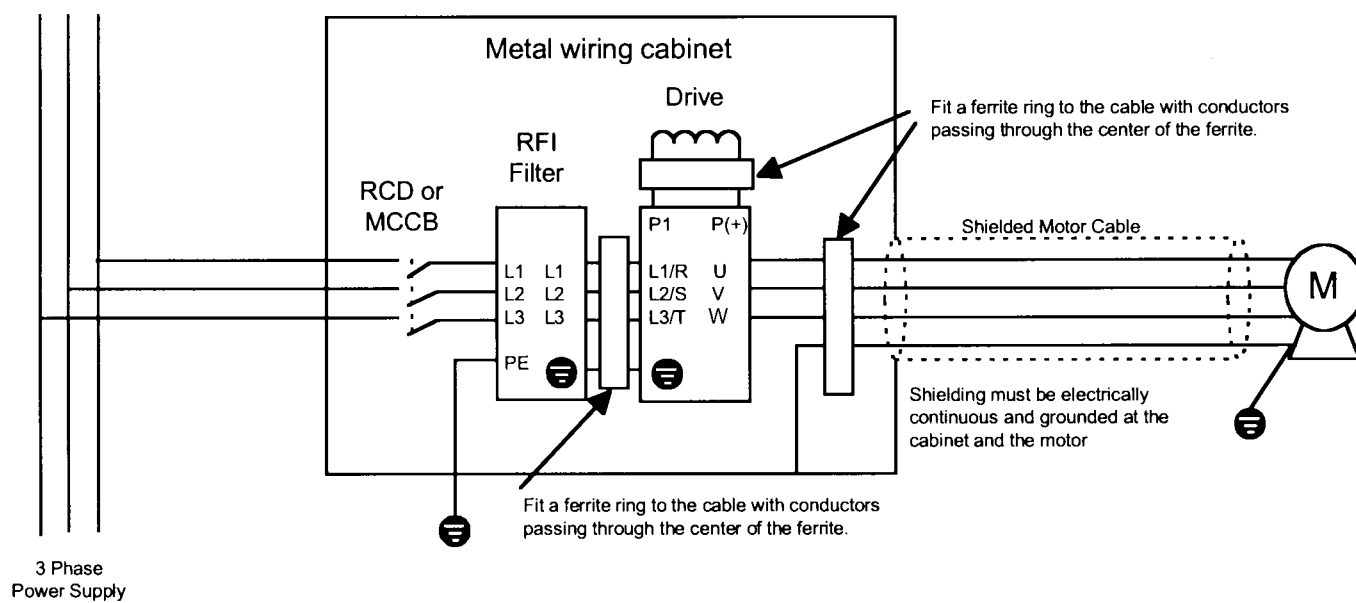

Figure 7 AF-300 P11 460V 500 Hp and higher
- 6) In the case where a ferrite ring is provided with the filter, fit the ferrite ring so the conductors pass through the center of the ferrite. Wire the cable according to Fig.6 or Fig.7, paying attention to the applied Drive type.